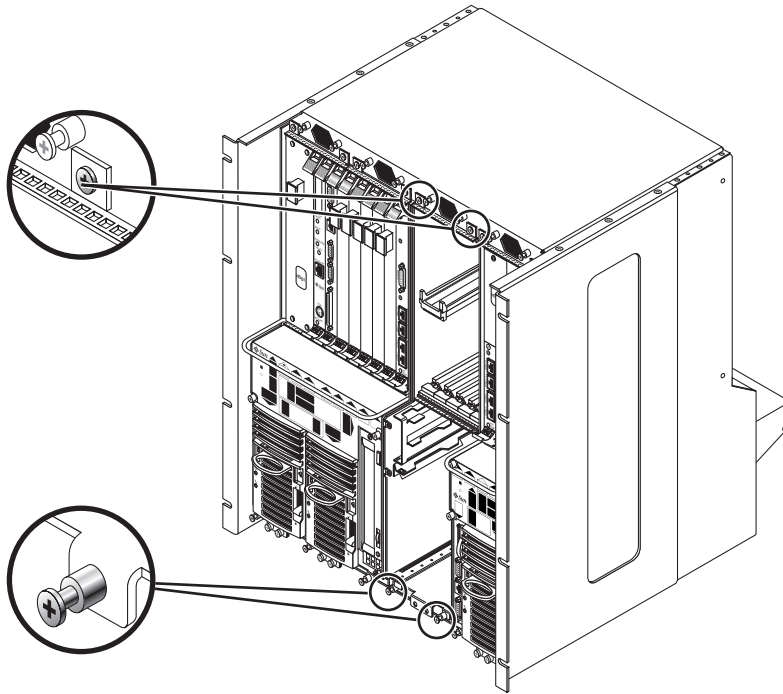

FIGURE 9-3 Loosening the Screws at the Top and Bottom of a Netra CT 410 Server
- If you are removing a Netra CT 410 server, loosen the *two* black captive screws at the top of the server and the *two* black captive screws at the bottom of the server (FIGURE 9-3).
- If you are installing a Netra CT 410 server, tighten the *two* black captive screws at the top of the server and the *two* black captive screws at the bottom of the server (FIGURE 9-3).